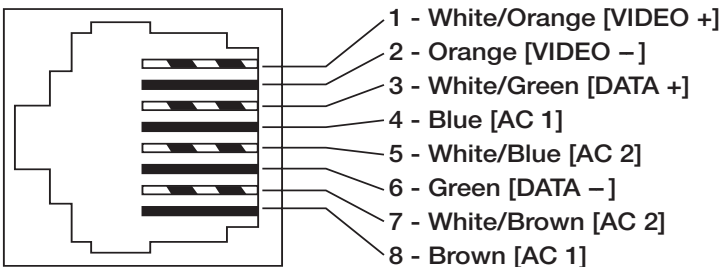

Fig. 4
5. Connect 115VAC 60Hz to the black and white flying leads of open frame transformer. Secure ground wire (Green) to earth ground (Fig. 4, pg. 8).
6. Select 24VAC or 28VAC power output for each of the Channels 1-4 on HubSat4WP (Fig. 4, pg. 8) with the corresponding output voltage switches. Select OFF position when servicing or installing individual cameras (Fig. 2d, pg. 6).
HubWayAv/HubWayAv2 passes AC voltage from pins 4, 5, 7, 8 to terminals marked [AC Power] (Fig. 4, pg. 8).
HubWayDv/HubWayDvi converts AC voltage to DC voltage from pins 4, 5, 7, 8 to terminals marked [- 12VDC +] (Fig. 4, pg. 8).